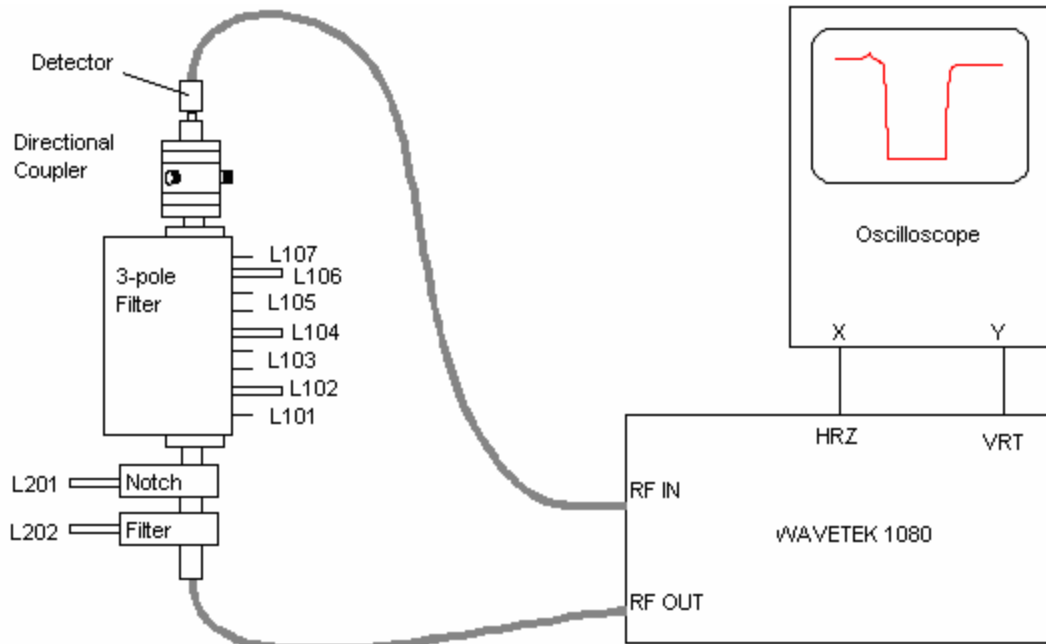
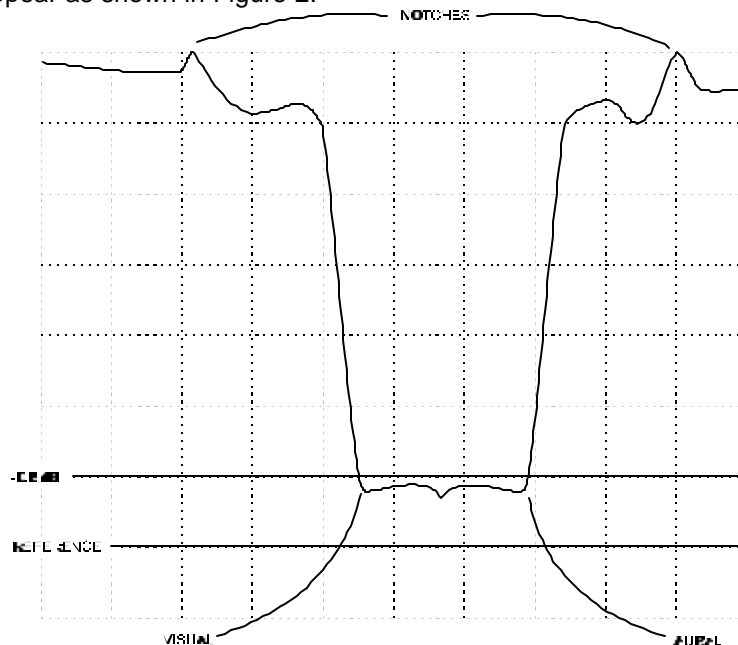

Figure 1. Sweep Alignment Test Set-up
Figure 2. Ideal NTSC Response
4. Connect the equipment as shown in Figure 1.
10. Set width of filter using L103 and L105. The width should be equal to the aural-to-visual difference of +0.5 MHz (total of 5 MHz for NTSC in North America). Ideally, waveshape should appear as shown in Figure 2.
16. Reconnect the equipment as in Figure 1 and repeat the sweep setup to compare response to the NTSC ideal in Figure 2.